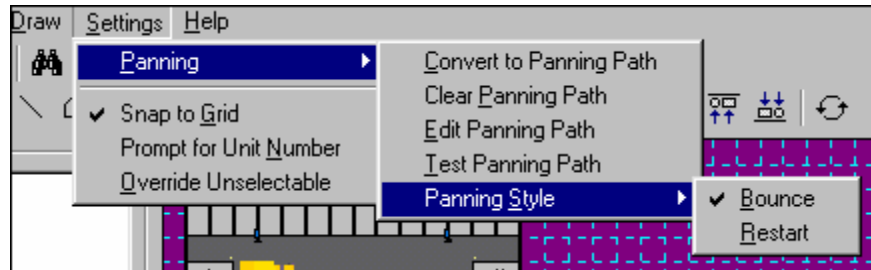

Figure 37
5. After you select 'Convert to Panning Path', you need to decide if the panning is to Restart from the beginning or Bounce from the end and pan back to the beginning. These options are under 'Settings>Panning>Panning Style', and then click on either Restart or Bounce (Figure 37).